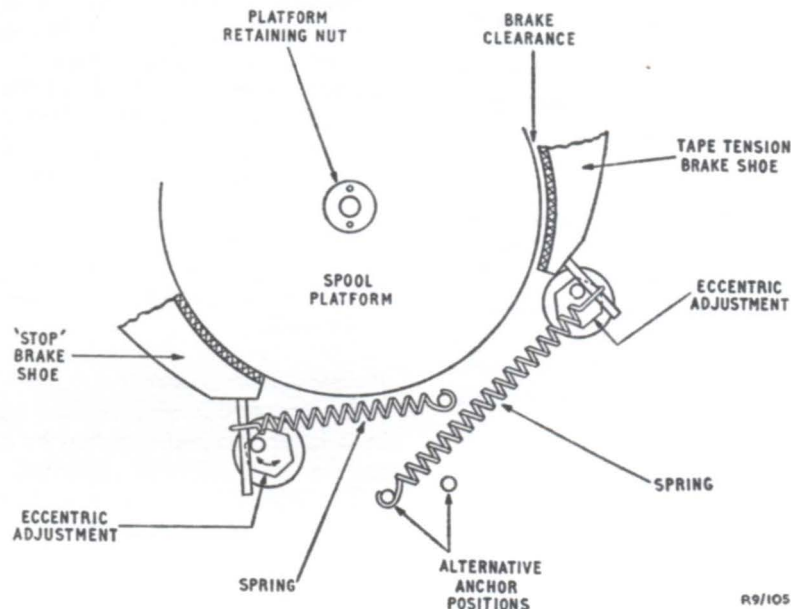

Fig. 10.1. Details of Brake Mechanism
Clearance Adjustment (Fig. 10.1)
2. By means of a box spanner, rotate the hexagon eccentric (Fig. 10.1) carrying the brake actuating pin until with the brake lifted by its solenoid